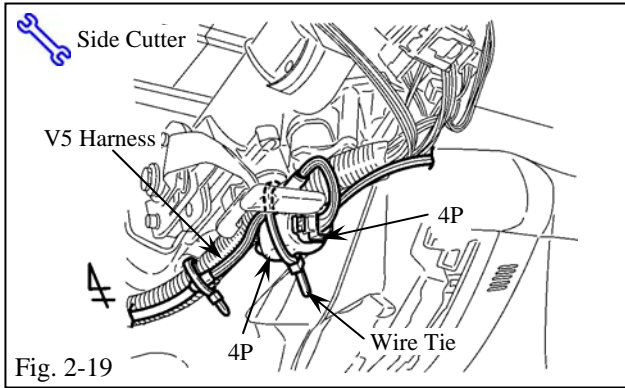

Fig. 2-19
- (x) Secure the V5 harness' black 4P connectors to the vehicle harness with one wire tie. (Fig. 2-19)